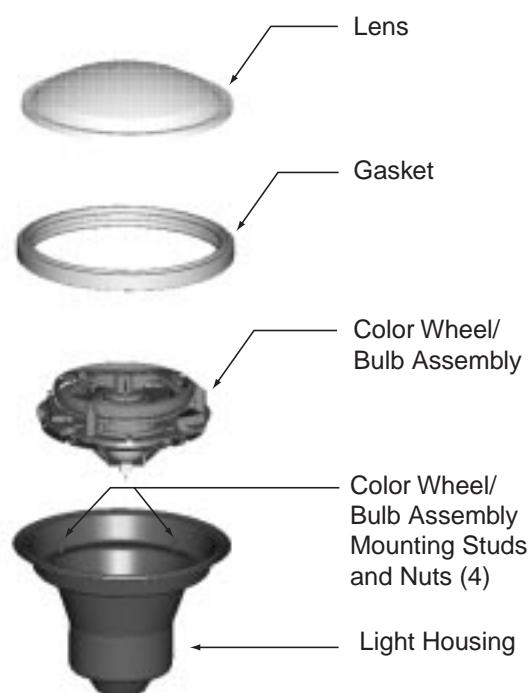

Figure 2.
## Section V. Replacing lamp's only, see Figure 2.
2. With the light resting on its base, place lens/gasket assembly on light fixture and position so the white pointer on the color wheel/bulb assembly points to the "O" in the word "TOP" on the surface of the lens. See Figure 2.